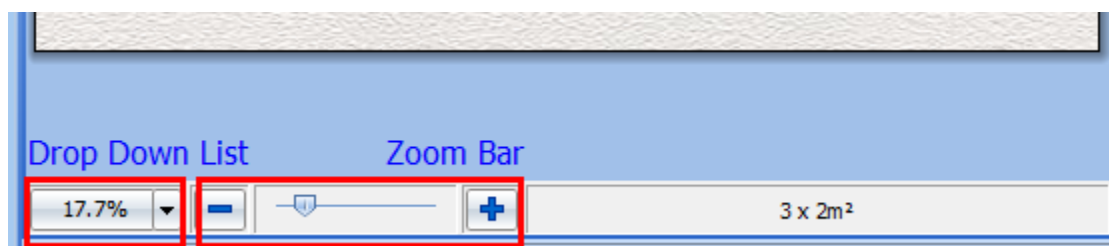

Figure 3.6.1A
- Choose from the drop down list (Figure 3.6.1A)
- Left-click the slider in the zoom bar, and drag it to the left to zoom out and to the right to zoom in (Figure 3.6.1A)